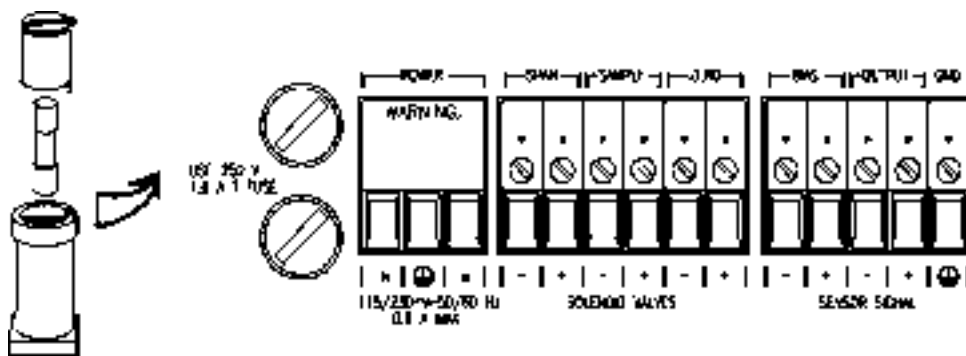

Figure 4-2: Removing Fuse Cap and Fuse from Holder
The 2010B Analysis Unit requires two 5 x 20 mm, 1.6 A, T type (Slow Blow) fuses. The fuses are located inside the explosion proof housing on the Electrical Connector Panel, as shown in Figure 4-2. To replace a fuse:
2. Place a small screwdriver in the notch in the fuse holder cap, push in, and rotate 1/4 turn. The cap will pop out a few millimeters. Pull out the fuse holder cap and fuse, as shown in Figure 4-2.